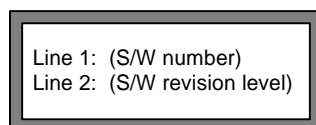

Fig. 3-2 Service Display
3. The display in Figure 3-2 is momentarily visible. Then the display will change to the normal standby mode display.